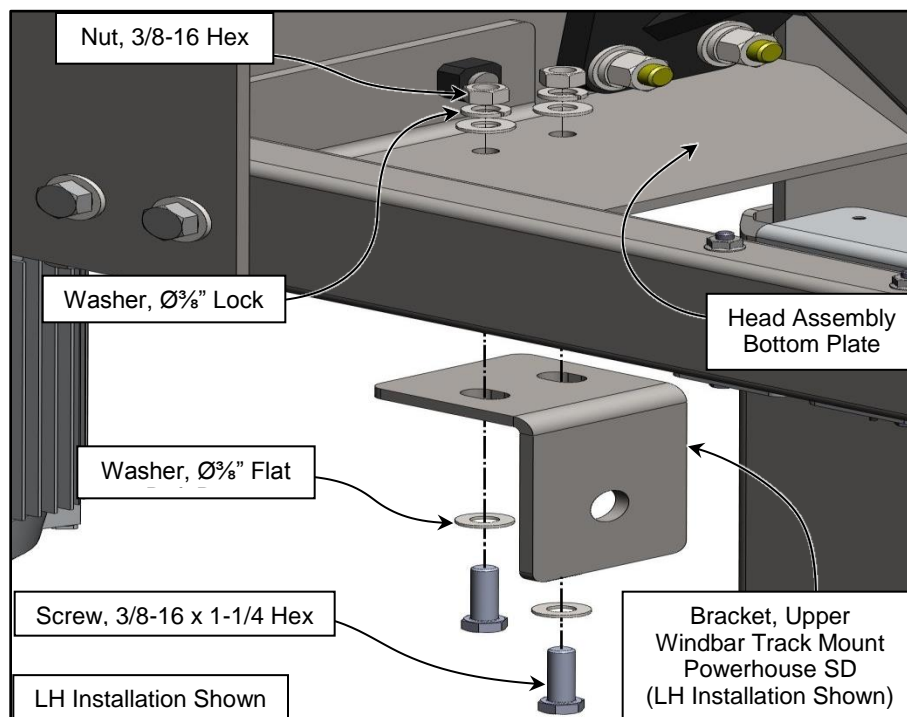

Figure 46
5. Mount the Upper Windbar Track Mounting Bracket to the Head Assembly Bottom Plates as shown. Screw the bolts into the nuts so full thread engagement is achieved. Do not tighten the brackets in place yet. They will need adjustment later. (See Figure 46)
6. Hang and fasten the Windbar Tracks from the Upper Windbar Track Mounting Brackets with the hardware shown. (See Figure 46)